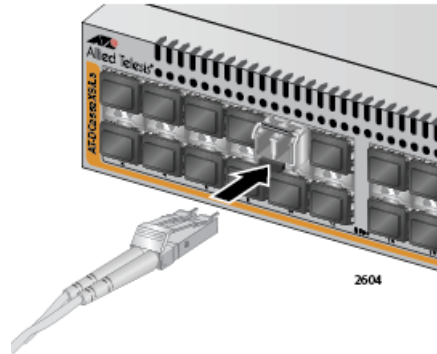

Figure 34. Attaching a Fiber Optic Cable to an SFP+ Transceiver
7. Refer to Table 9 on page 71 for the recommended fiber optic cable. Insert the cable to the port on the transceiver, as shown in Figure 34, until it snaps in place.